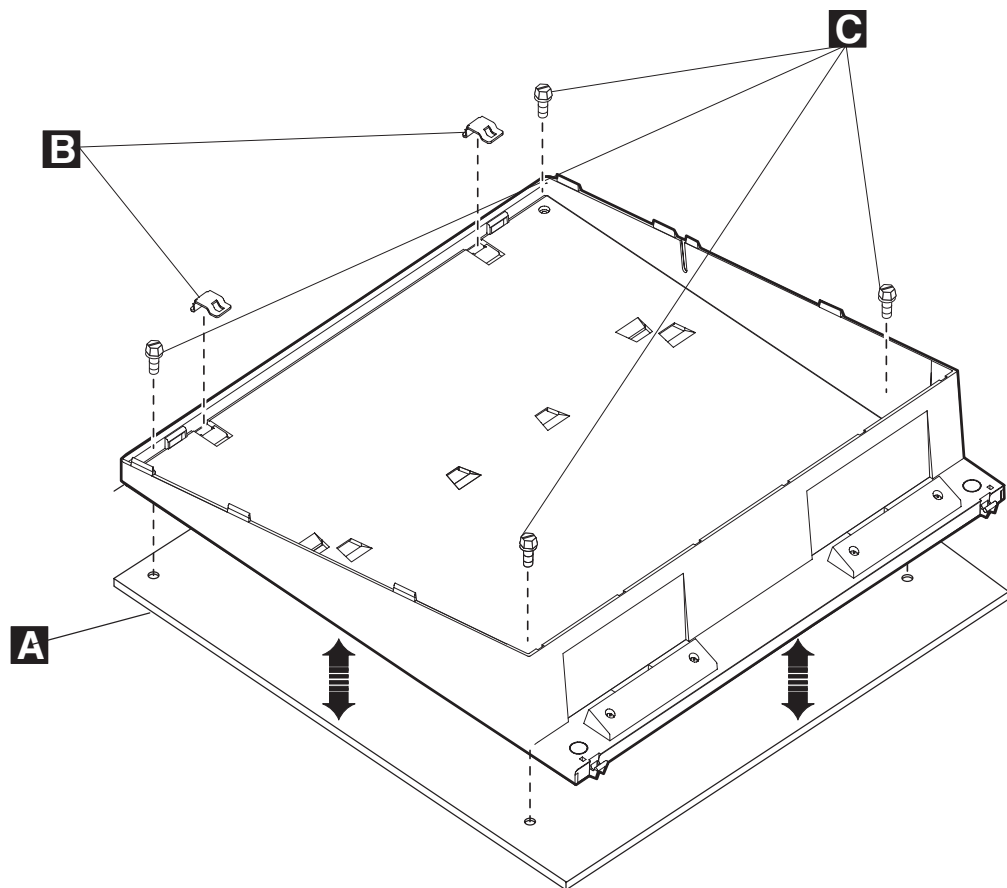

Figure 18. Installing two mounting tabs into the slanted I/O tray
1. Install the two mounting clips (**A** in Figure 18) into the slanted I/O tray. From the inside of the I/O tray, insert the back of the mounting clip first and push the front part into the opening.